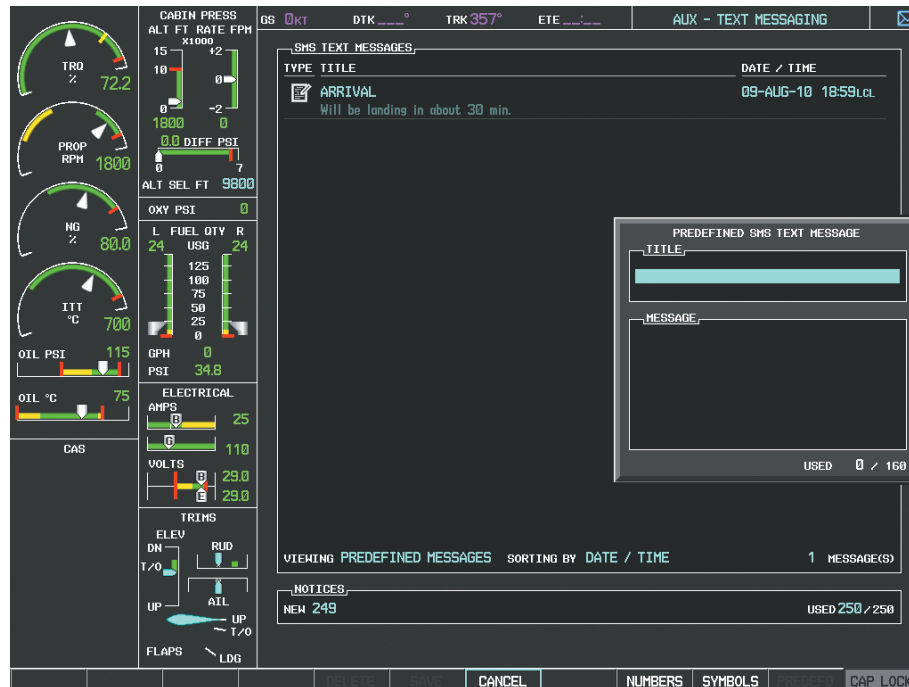

Figure 8-100 Composing a Predefined Message
- c) Press the **ENT** Key. The PREDEFINED SMS TEXT MESSAGE Window is now displayed as shown in Figure 8-100.